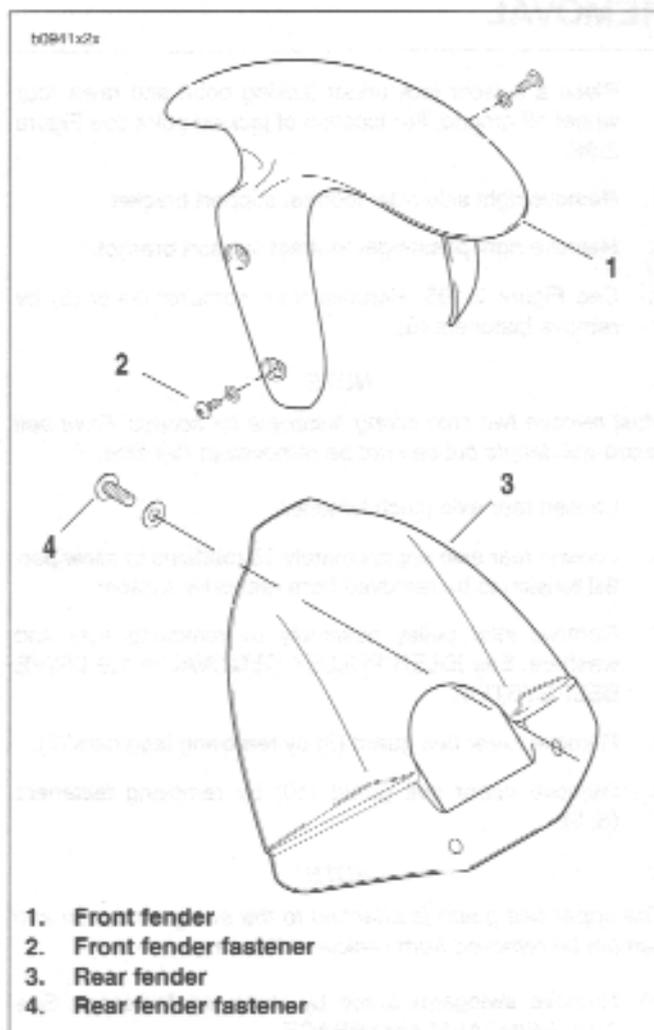

Figure 2-104. Front and Rear Fender
1. See Figure 2-104. Remove fasteners and washers (2) securing the front fender (1) to front forks.
2. Carefully remove front fender (1).
1. See Figure 2-104. Align front fender (1) to fender mounts on front forks.
2. Install front fender (1) with fasteners and washers (2) and tighten to 12-36 **in-lbs** (1-4 Nm).
2. See Figure 2-104. Remove fasteners and washers (4) securing the rear fender (3) to frame.
3. Remove rear fender (3).
1. See Figure 2-104. Align rear fender (3) to frame.
2. Install rear fender (3) with fasteners and washers (4). Tighten to 12-15 **in-lbs** (1-1.7 Nm).